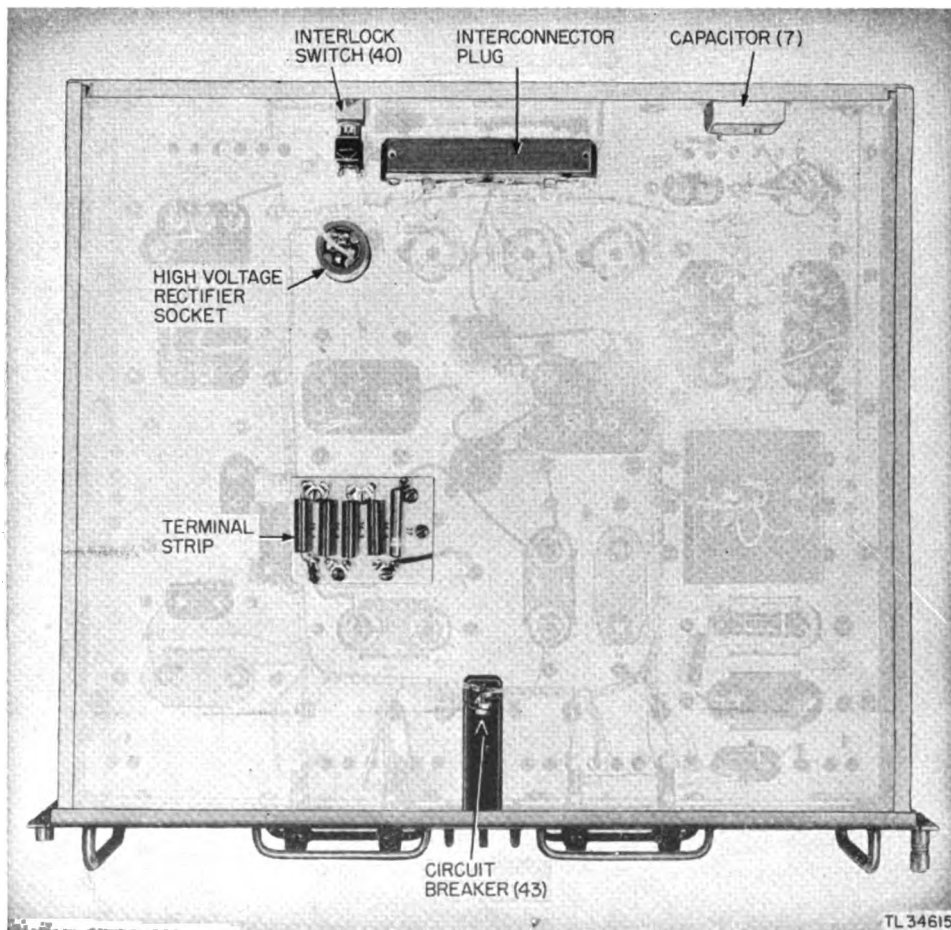

Figure 20. Power supply chassis—bottom view.
- a. LOCATION (fig. 20).
- (1) The tube sockets for—
- (2) The high-voltage rectifier sockets (fig. 20) for—
- (3) The fuses for—
- (4) Capacitors 5 and 7 (fig. 20) for—
- (5) The terminals of the capacitors for—
- (6) The resistors for—